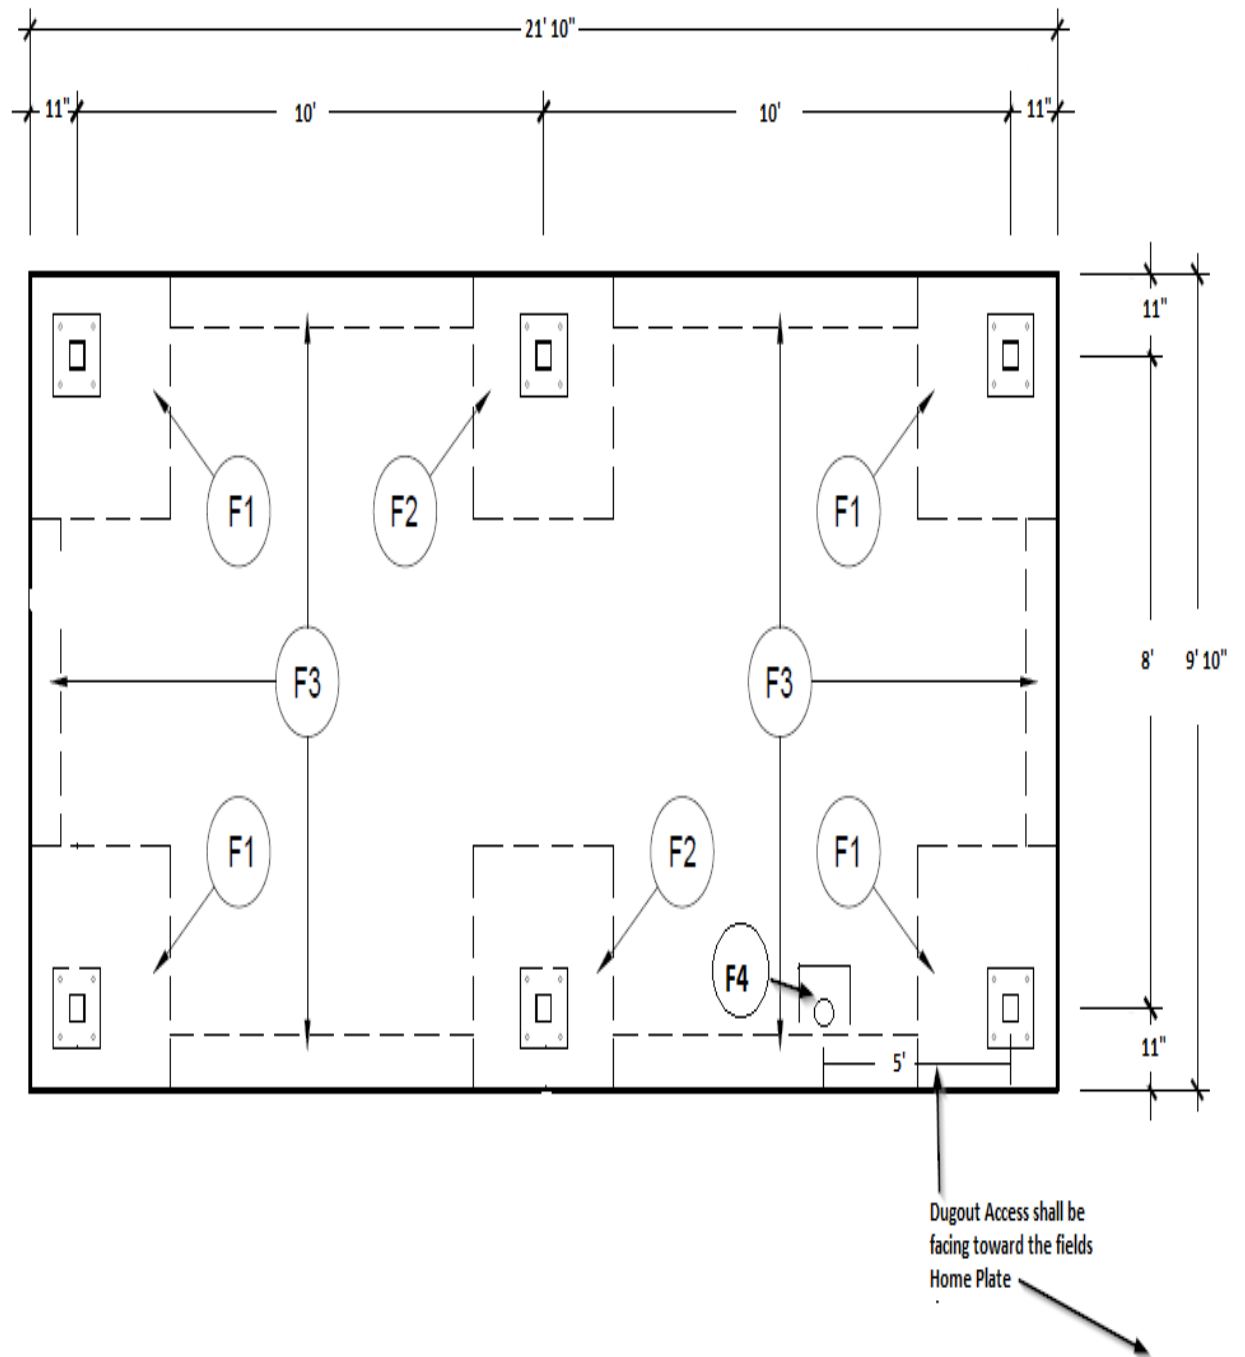

Figure 8: Chain Link Fencing and Relocated Chain Link Corner Posts
- d. The back chain link corner post in the front of the dugout will have to be removed and reset in concrete to leave an opening of 22' 2" from corner post to corner post. Any chain link fencing which is attached to the back section of the existing dugout is to be detached, resetting any corner posts leaving a 22' 2" opening for the new concrete pad to be installed. See figure 8. All fencing fabric that is to remain is to be tightened and mechanically adhered to the reset fencing corner posts.
- e. The existing fencing in front of the existing dugouts is to be removed and disposed of, leaving a 22' 2" void for the new dugout to be installed. See figure 8. Disposal of all removed fencing material shall be the responsibility of the contractor, in accordance with all state and federal regulations.
- b. The back chain link corner post in the front of the dugout will have to be removed and reset in concrete to leave an opening of 22' 2" from corner post to corner post. Any chain link fencing which is attached to the back section of the existing dugout is to be detached, resetting any corner posts leaving a 22' 2" opening for the new concrete pad to be installed. See figure 8. All fencing fabric that is to remain is to be tightened and mechanically adhered to the reset fencing corner posts.
- d. All dugout center and corner posts shall line up and be straight with the existing fencing corner posts and fabric. See figure 8.
- b. The fencing shall be continuous on all four sides of the dugout, the back and two sides of the dugout shall be 8' tall fencing. The front fencing shall be 4' tall fencing with a five-foot field access opening on the side of the dugout closest to home plate. See figure 8.